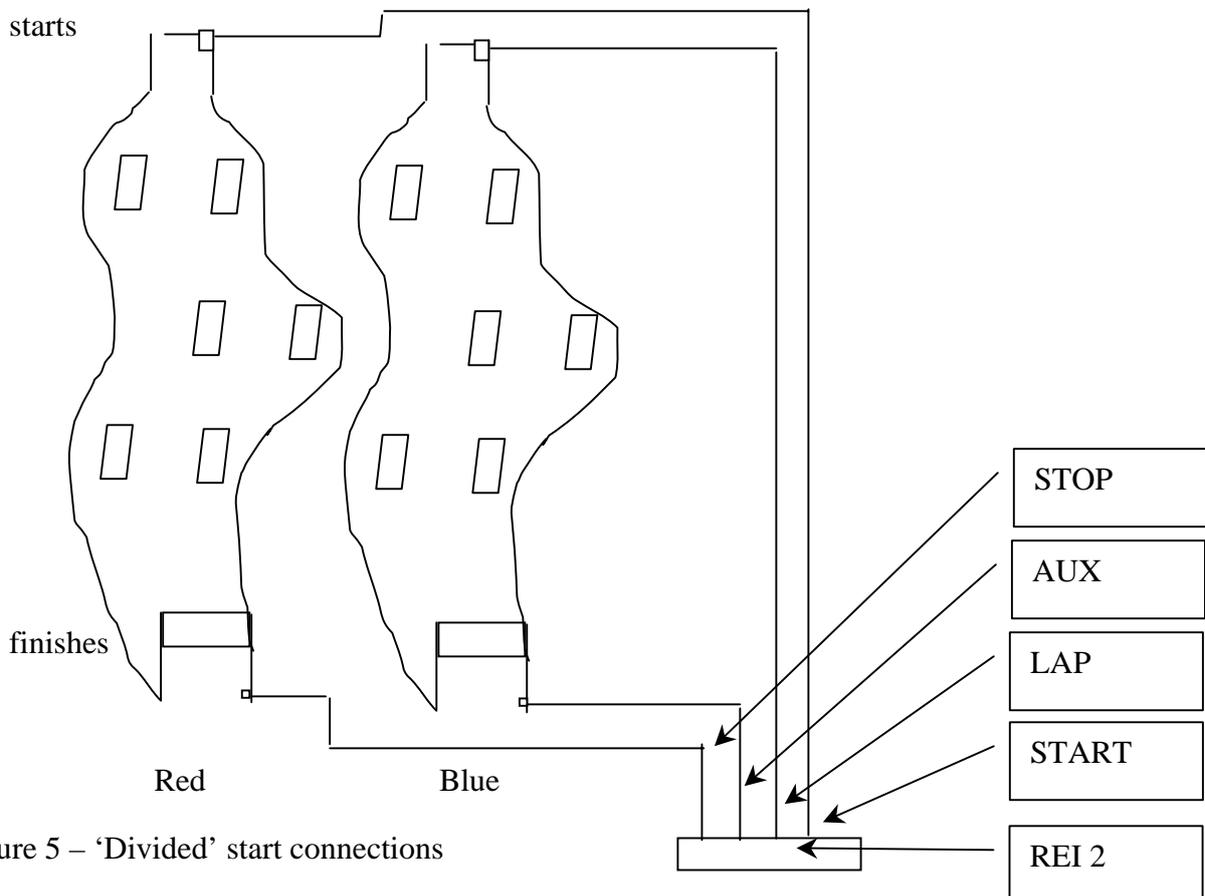

Figure 5 – 'Divided' start connections
- **Divided:** For each track both the start and the finish are acquired independently. This makes it possible to use normal starting gates for the start if you do not have special starting gates for slalom special, guaranteeing uniformity in time taking. The time of each competitor starts with the opening of the gate of that particular competitor. The time of the second run starts from the time obtained in the first run. See example in Figure 5.